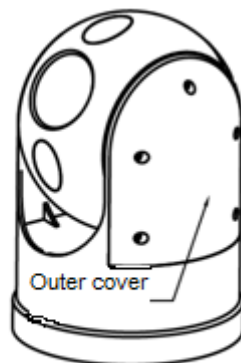

Figure 13
3.1. As figure 13 shows, please remove the outer cover and take it out.